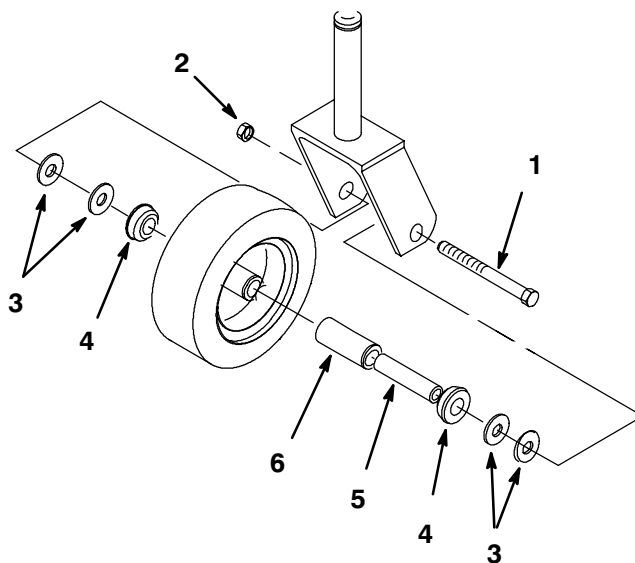

Figure 28
1. Remove the locknut and wheel bolt holding the castor wheel to the castor fork (Fig. 28).
2. Remove the washers and bushing, then pull the spanner bushing and roller bearing out of the wheel hub (Fig. 28).
3. Remove the other bushing from the wheel hub and clean any grease and dirt from the wheel hub (Fig. 28).
4. Inspect the roller bearing, bushings, spanner bushing and inside of the wheel hub for wear. Replace any defective or worn parts (Fig. 28).
5. To assemble, place one (1) bushing into the wheel hub. Grease the roller bearing and spanner bushing and slide them into the wheel hub. Place the second bushing into the wheel hub (Fig. 28).
6. Install wheel bolt, (2) washers per side, and castor wheel into the castor fork. Secure with locknut and tighten until the spanner bushing bottoms against the inside of the castor forks (Fig. 28).